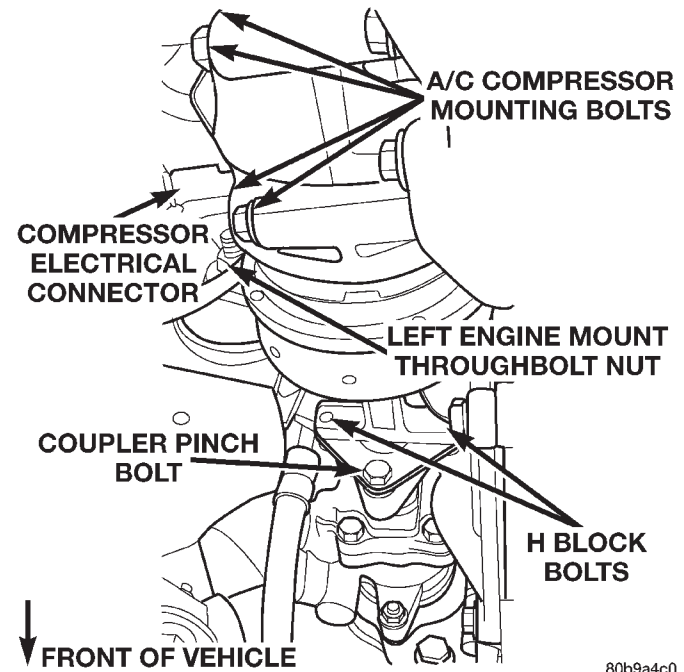

Fig. 15 A/C Compressor Position & Orientation
- (1) Disconnect the negative battery cable.
- (2) Remove the refrigerant line support bracket bolt from the upper radiator support crossmember..
- (3) Remove the A/C filter-drier assembly support bracket nuts from the left fenderwell.
- (4) Disconnect A/C compressor electrical connector (Fig. 15).
- (5) Raise the vehicle on a hoist.
- (6) Remove the engine mount throughbolt nut only (Fig. 15). Leave the bolt installed at this time.
- (7) Loosen the (4) H-Block retaining bolts. Do not remove the bolts at this time.
- (8) Remove the (2) H-Block retaining bolts from the power steering pump side of the block (Fig. 15).
- (9) Support the A/C Compressor with mechanics wire before proceeding to the next step.
- (10) Remove the (4) A/C Compressor mounting bolts (Fig. 15).
- (11) Remove the remaining (2) bolts from H-Block and remove the H-Block from the compressor.
- (12) Position a jack stand and raise the weight off the left engine mount.
- (13) Remove the (2) engine mount upper sill plate nuts.
- (14) Remove the (4) engine mount bracket bolts from the engine block.
- (15) Remove the (2) engine mount lower sill plate bolts.
- (16) Remove the engine mount troughbolt.
- (17) Remove the left engine mount from the vehicle.